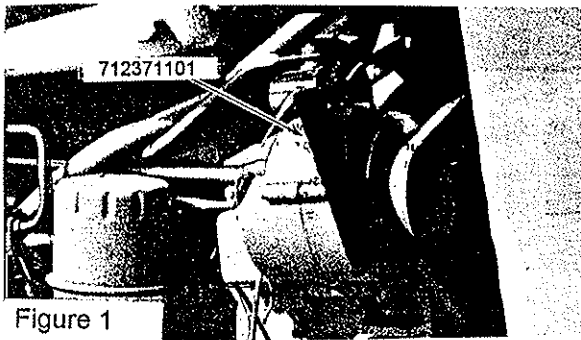

Figure 1
1. Bolt #712371101 alternator guard to alternator using 5/16" -18 x 3/4" cap screw and nut. Bend to position guard preventing alternator fan from contacting vinyl. See Figure 1.